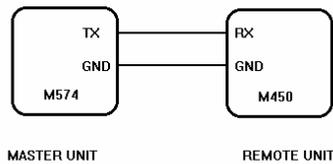
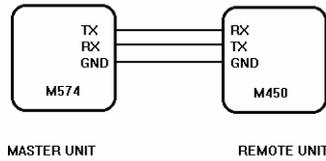

Figure 57 Remote display connections (standard) from 574 to 450 or 550.
Figure 59 Remote display connections for Remote Keys (450 or 550)
<ZERO> on the 450 unit will transmit a serial command to the 574 specific to performing a zero operation. Note that bi-directional capabilities must be fully intact. The 550 units COMM receive input must be ON. A TX, RX and GND cable must be connecting both units COMM Ports. Both the master and remote unit must be setup for **software** handshaking (Xon). This will allow the master unit (550) to transmit its display information while allowing the slave unit (450) to remotely send serial key commands. Refer to figure 59 for Remote Key operation connections. Figure 57 illustrates standard Remote Display operation connections without remote key operation. The master unit must be set for **NO** handshaking.